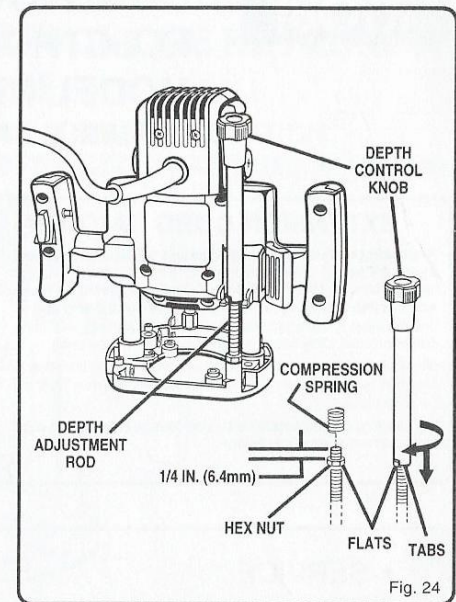

Fig. 24
See Figure 24.
- Place compression spring on top of hex nut as shown in figure 24.